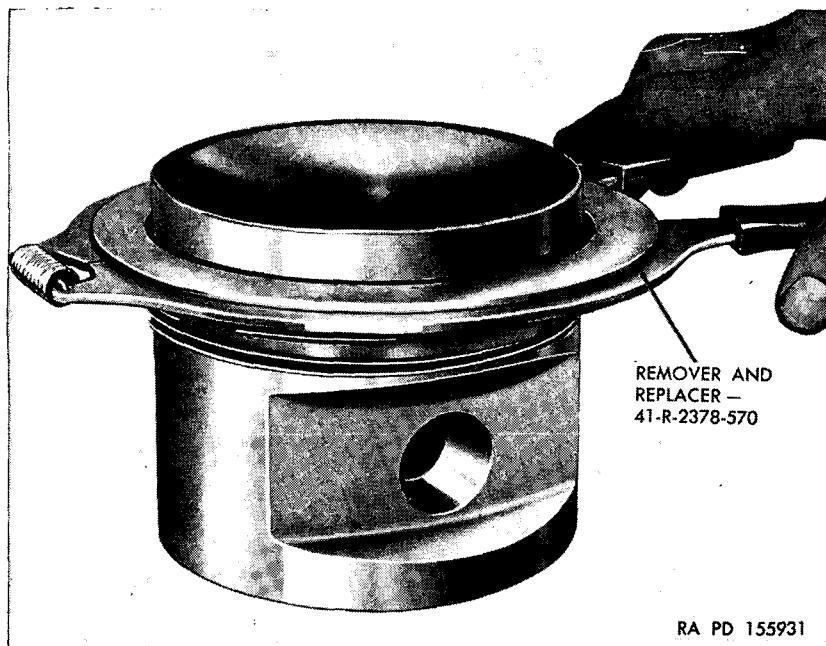

Figure 61. Installing piston ring.
- b. Remove rings with remover and replacer 41-R-2378-570 (fig. 61). Tag rings so that serviceable rings may be installed in their original grooves.
*a.* Using new rings as required, install piston rings in their original positions with replacer 41-R-2378-570 (fig. 61). Care must be used when installing the rings so the ring lands will not be scratched and the rings will not be distorted.